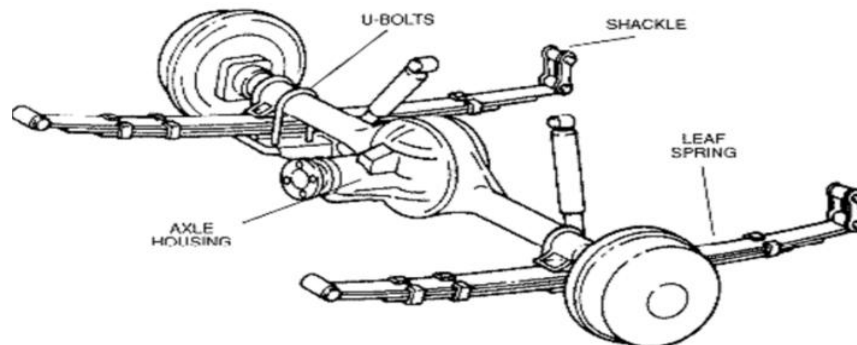

Figure 2: Illustrates Dependent Suspension.
2. **Dependent Suspension:** Dependent suspension is a type of suspension system used in some automobiles. It is sometimes referred to as solid axle or non-independent suspension. Both wheels on an axle are linked as a single unit in a dependent suspension configuration. Dependent suspensions don't have individual wheel movement like independent suspensions do. They have a more straightforward design and are frequently found in trucks and older cars. Dependent suspensions generally support the vehicle's weight and absorb shocks using coil springs or leaf springs. Dependent suspensions excel at delivering durability and load-carrying capacities but may not provide the same level of handling and ride comfort as independent suspensions. Dependent suspensions may be used for heavy-duty tasks like towing and off-roading because of the solid axle design's durability and stability. Dependent suspensions are widely used in several types of vehicles because of their robustness, simplicity, and capacity to support huge loads. The following Figure 2 depicts a set of dependent suspensions [3]–[5].